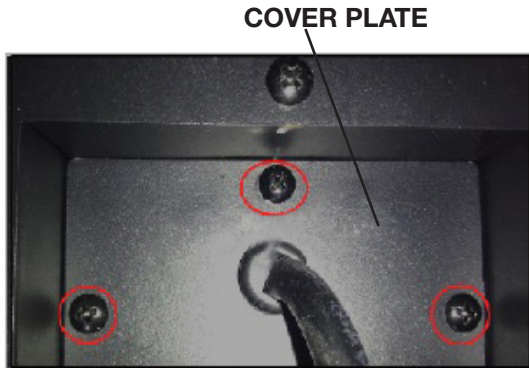

Fig. 1
- Remove the cover plate from the bottom right side of the appliance by removing the 3 screws (**Fig. 1**).
- Reinstall the cover plate using 3 screws (**Fig. 1**).